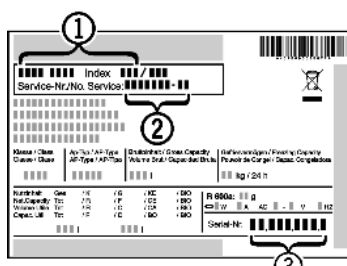

Fig. 33
- ▶ Read off the appliance name Fig. 33 (1), service no. Fig. 33 (2) and serial no. Fig. 33 (3) from the model plate. The model plate can be found on the inside of the appliance on the left.